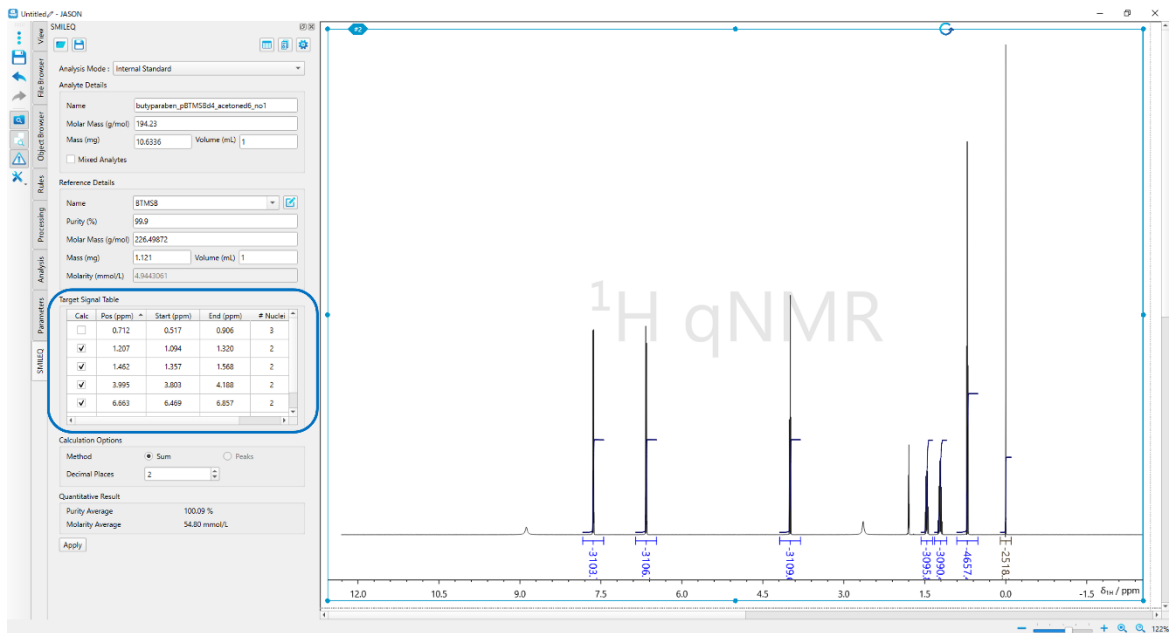

Figure 29: SMILEQ widget after confirming the target signal table
- Confirm the **"Target Signal Table"** details. If necessary, manually (de)select the signal for the analyte or enter the nuclides information as shown in Figure 29. (see section 2.3 Target Signal Table Area)